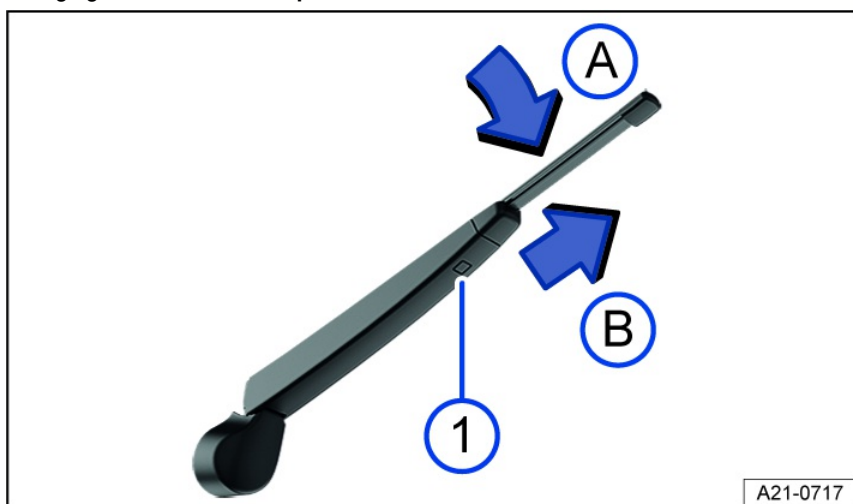

Fig. 173 Changing the rear window wiper blade.
① Unlock button of the wiper blade.
3. Press and hold the release button *fig. 173* ①.
4. Tilt the wiper blade toward the wiper arm *fig. 173* A while removing it in the direction of the arrow B. You may need to use more force to do this.
5. Slide a new wiper blade with the same length and design onto the wiper arm in the opposite direction to the arrow until it engages *fig. 173* B. For this to work the wiper blade has to be folded out *fig. 173* A.